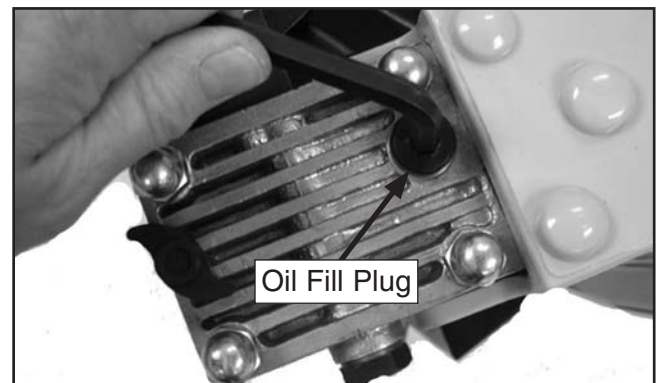

Figure 9. Removing the oil fill plug.
2. Use an 8mm hex wrench to remove the fill plug/dipstick, as shown in **Figure 9**.